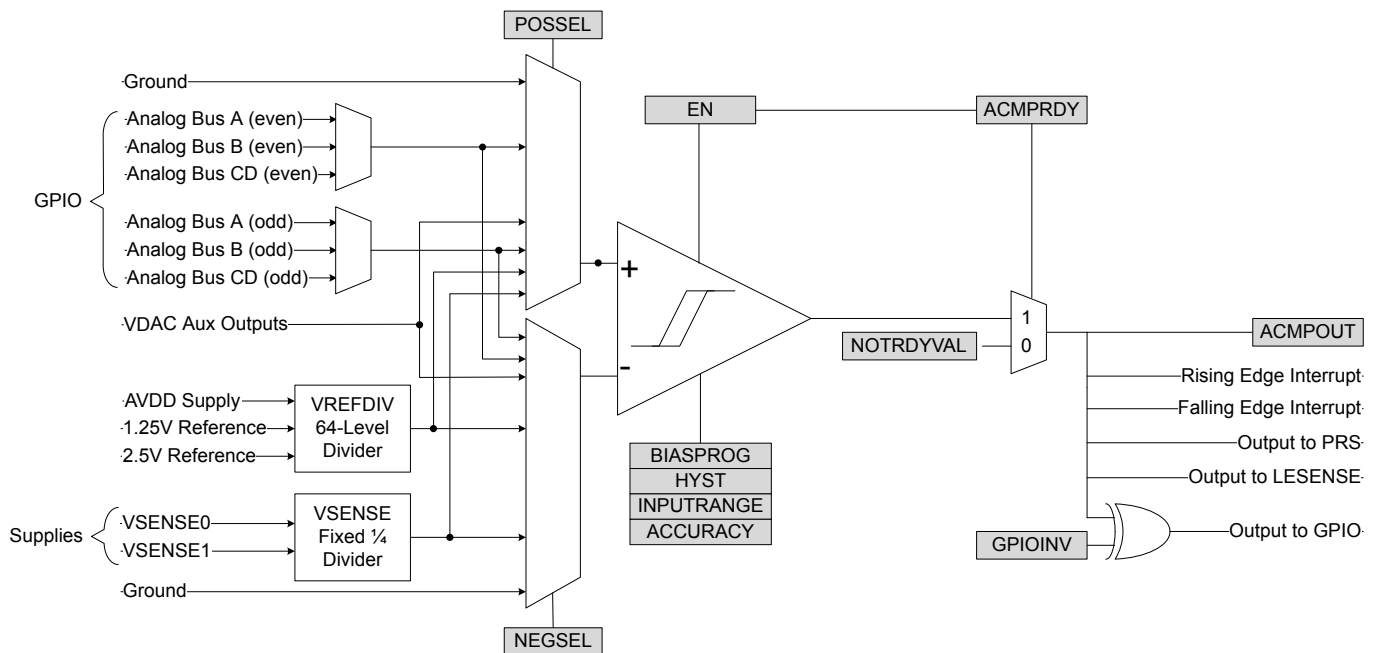

Figure 31.1. ACMP Overview
An overview of the ACMP is shown in Figure 31.1 ACMP Overview on page 1238.
The ACMP can be used to monitor supply voltages. This is done by selecting VSENSE01DIV4(LP) or VSENSE11DIV4(LP) for either POSSEL or NEGSEL. Note that the input to the comparator core will be divided by 4, as illustrated in Figure 31.1 ACMP Overview on page 1238. To reduce energy consumption, a sample/hold circuit can be used to periodically sample the power supplies. To enable this, select VSENSE01DIV4LP or VSENSE11DIV4LP in POSSEL / NEGSEL. Because the sample/hold feature uses the comparator in a non-continuous fashion, enabling this will increase response times and reduce the accuracy of the comparator. The connections between VSENSE0 and VSENSE1 to power supplies are summarized in the table below.